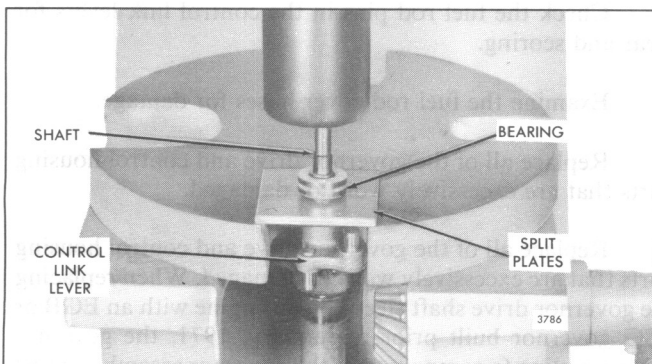

Fig. 11 – Removing Bearing from Control Link Lever Shaft
- c. Place two split plates between the bearing and the lever, then support the split plates, lever, shaft and bearing assembly on the bed of an arbor press as shown in Fig. 11. Press the shaft from the bearing.